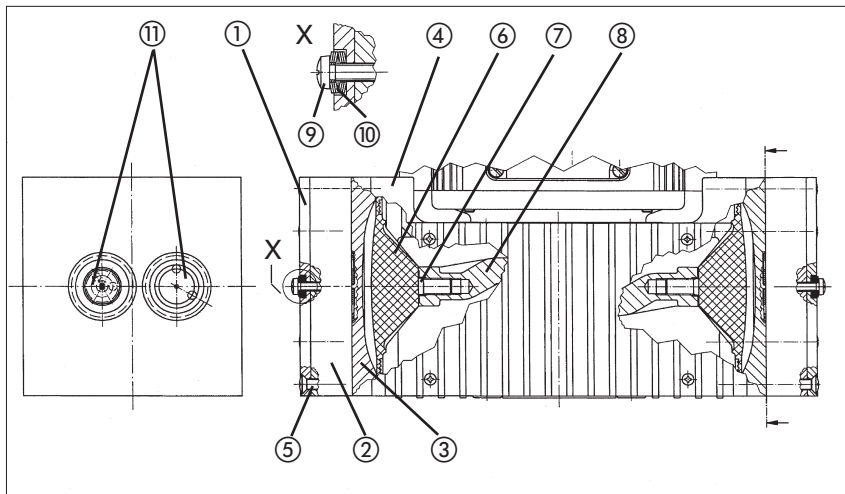

Fig. 2: Cross section of pump heads (symbolic)
- ▶ The position numbers in the following text refer to fig. 2.